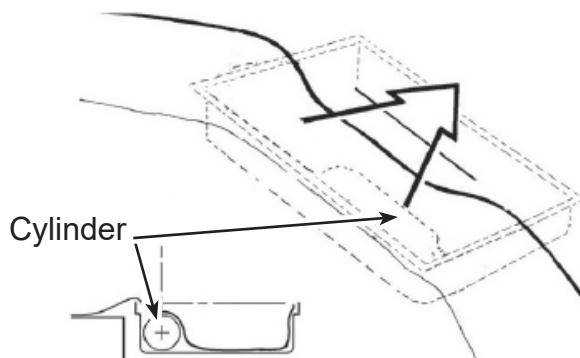

FIGURE 898
- 9.20.1 Put the cylinder at the back of the container and with the operating head close to the container corner. Refer to **Figure 898**.